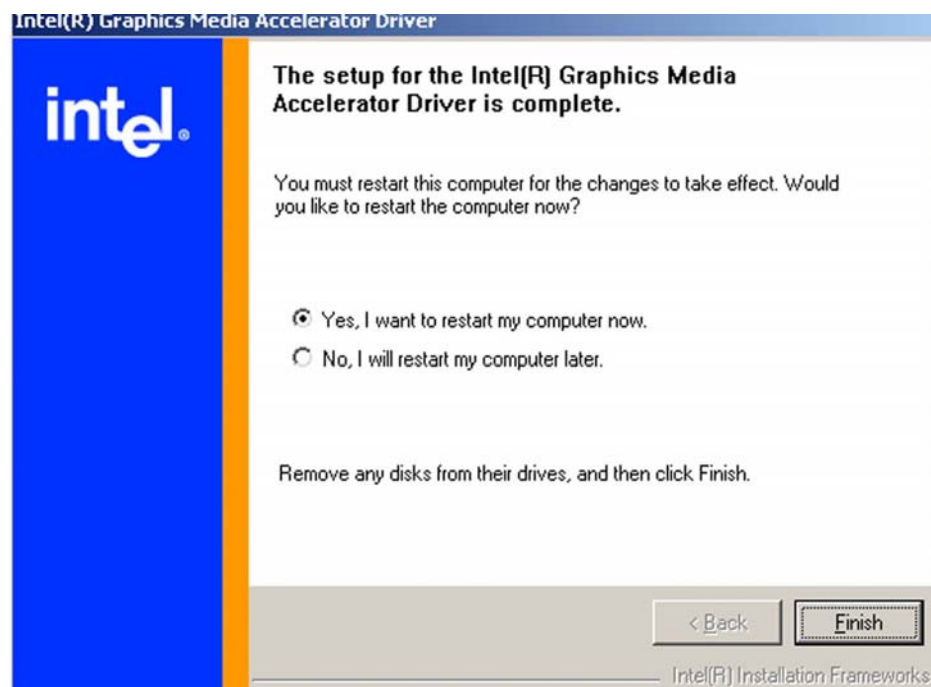

Figure 7-15: GMA Driver Installation Complete
Step 13: A confirmation screen shown in **Figure 7-15** appears.
Step 14: After selecting when to restart the computer in **Figure 7-15**, click **FINISH**.